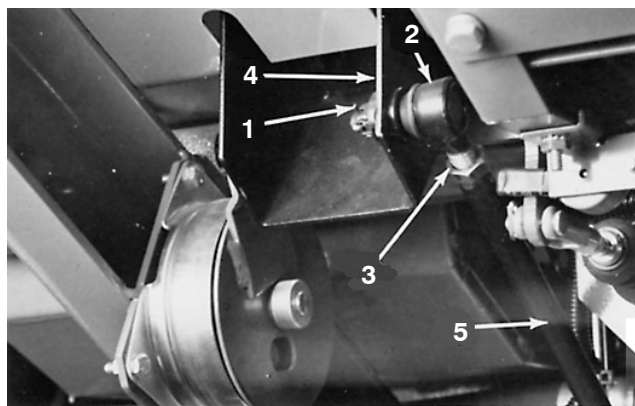

Figure 78
2. Remove cotter pin and slotted nut from ball joint at traction pedal (Fig. 78). Disconnect ball joint from traction pedal.